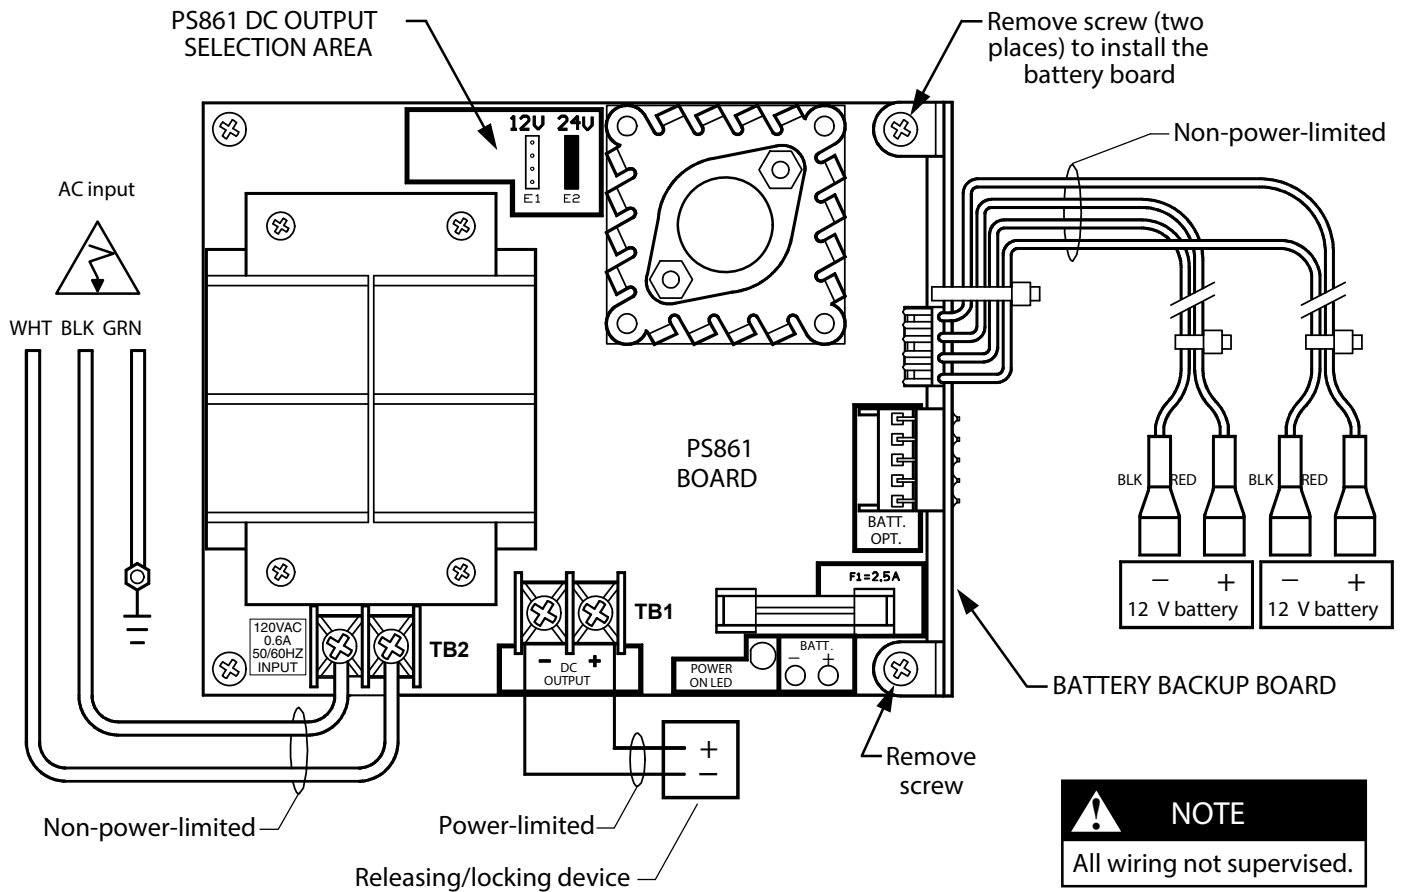

Figure 2. Installing and Wiring the Battery Backup Board
- 3.3. Select 12 VDC or 24 VDC in the DC OUTPUT SELECTION area on the power supply board by moving the four (4) position jumper to 12 V or 24 V position (Figure 2, opposite page).
- 4.1. Select 12 or 24 VDC in the DC OUTPUT SELECTION area of the battery backup board by moving the six (6) position jumper to 12V or 24V (Figure 2, opposite page).